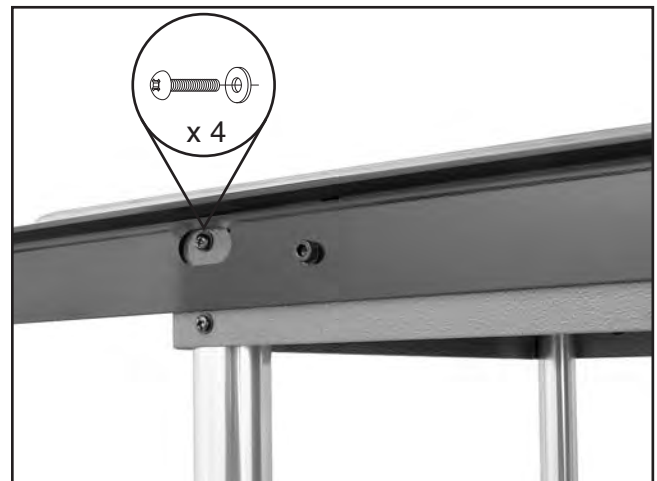

Figure 20. Support leg fastened to main extension table.
- Fasten each support leg to the main extension table with four M6-1 x 12 Phillips head screws and 6mm flat washers, as shown in **Figure 20**.